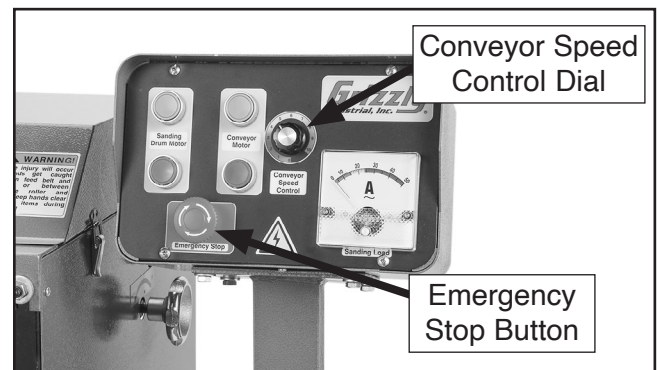

Figure 18. Location of Emergency Stop button.
2. Push Emergency Stop button (see **Figure 18**).